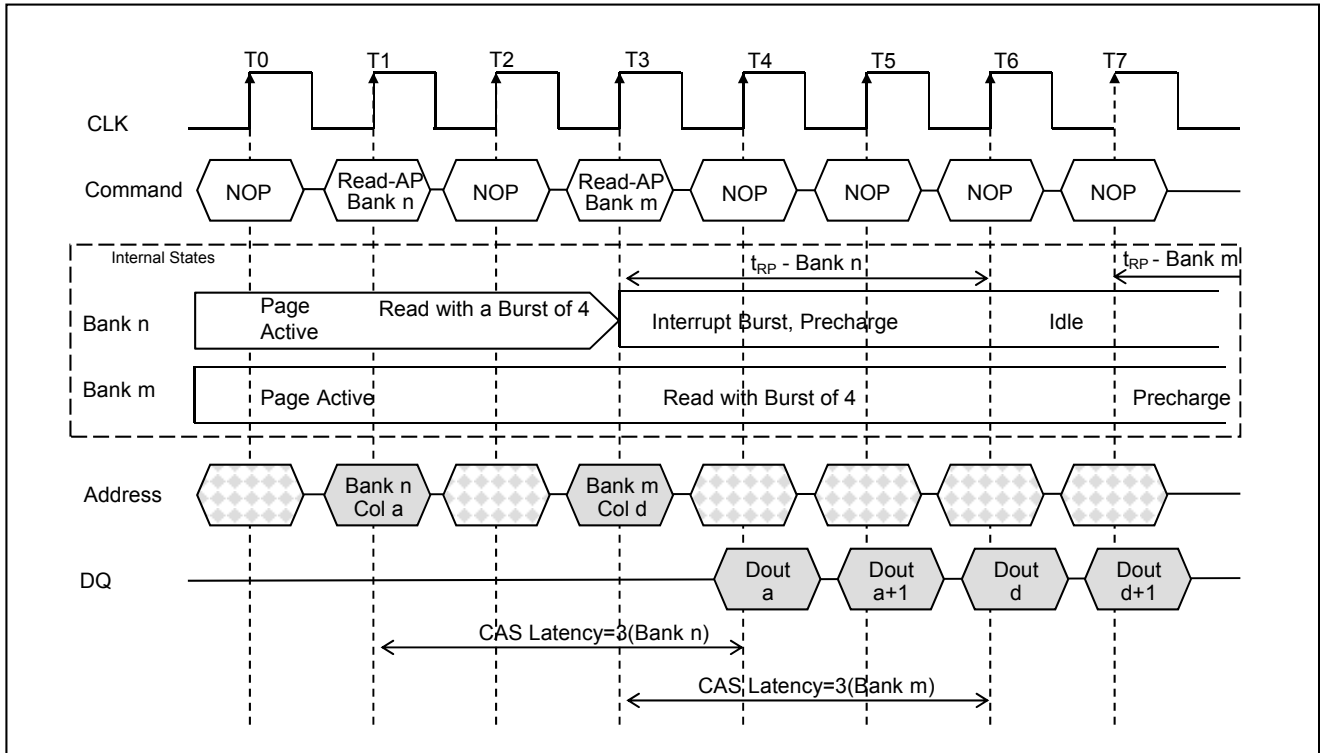

Figure 25. Read with Auto Precharge Interrupted by a Read(CAS Latency =3)
1. Interrupted by a Read(with or without auto precharge): A read to bank m will interrupt a Read on bank n, CAS latency later. The precharge to bank n will begin when the Read to bank m is registered. (Figure 25.)